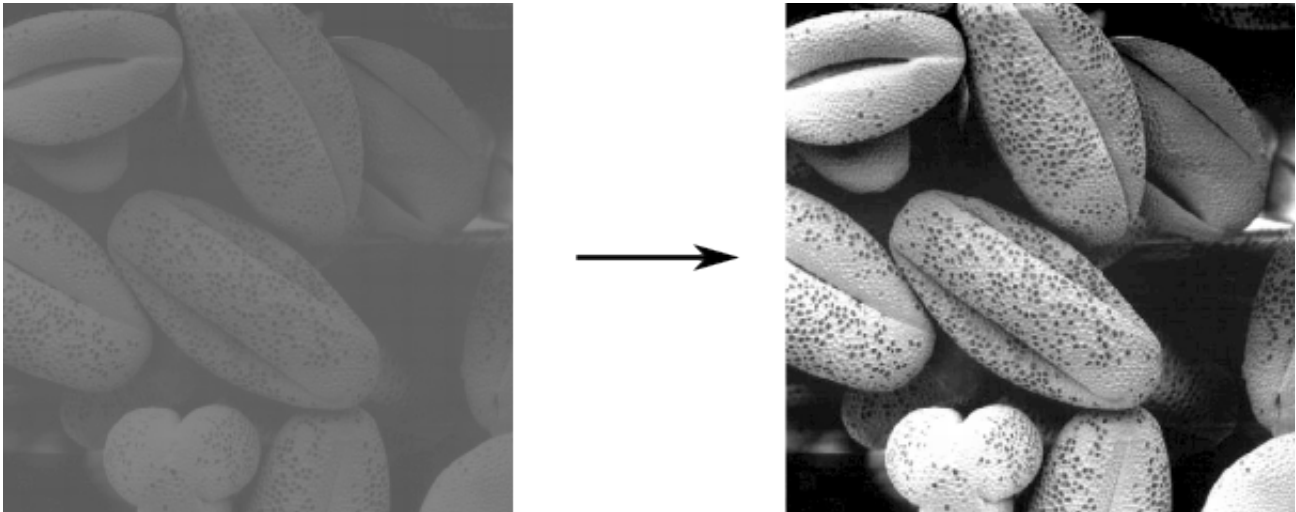

Figure 3: Example of histogram equalization in a low-contrast image.
Histogram equalization (HE) is an image processing technique that increases the contrast of images. The word "histogram" in HE refers to the histogram of pixel brightnesses. Figure 3 illustrates the effect of HE on a low-contrast image. The basic idea is to change the brightness of the individual pixels in a way that a) preserves the brightness order (i.e. if pixel A was brighter than pixel B before HE, it will
still be brighter after HE); b) makes the histogram close to uniform, i.e. all pixel brightnesses occur approximately equally often. Figure 3 illustrates HE in an example.